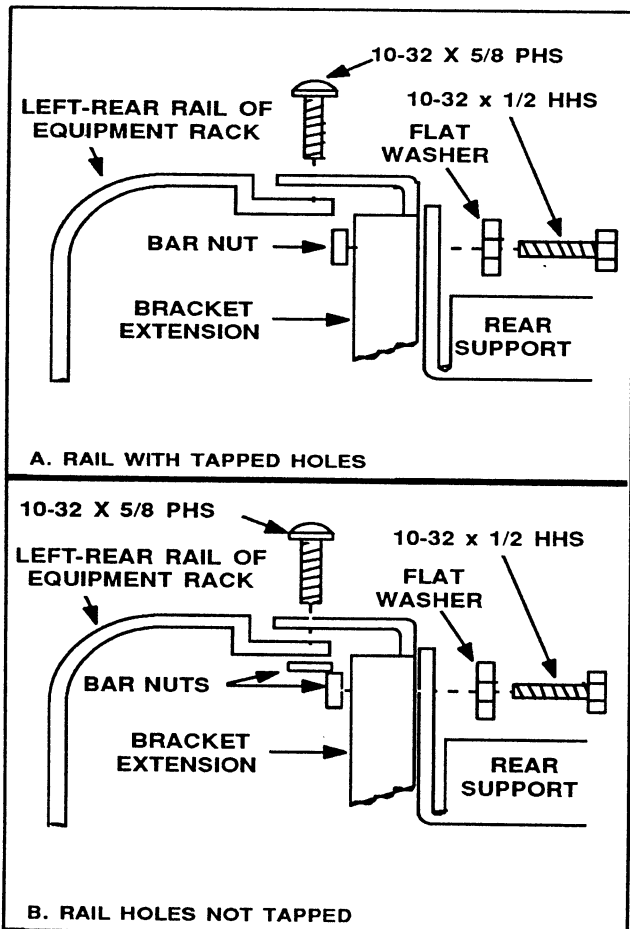

Figure 6-4. Installing bracket extensions.
5. Secure the bracket extensions to the rear support using four 10-32 x 1/2-in hex-head screws, four flat washers, and two bar nuts as shown in Figure 6-4.